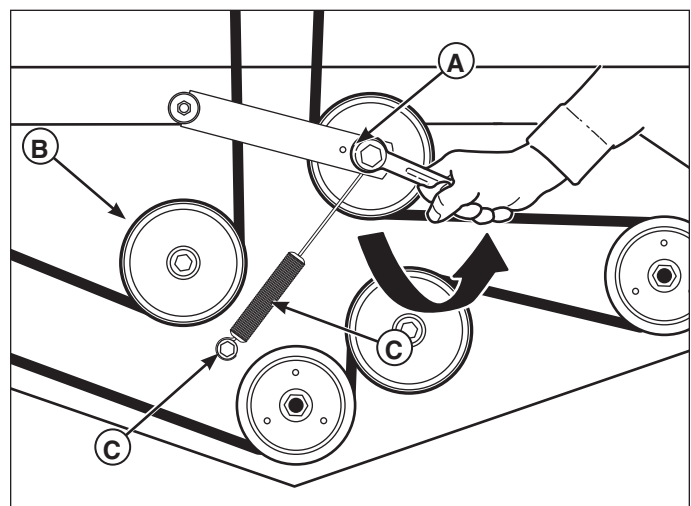

Figure 1. Mower Deck Drive Belt
4. Using a 1/2" breaker bar, place the square end in the square hole located on the end of the idler arm (A, Figure 1). Carefully rotate the breaker bar COUNTER-CLOCKWISE, which will relieve the tension on the mower deck drive belt exerted from the idler arm.
5. Slide the mower deck drive belt over the edge of the stationary idler pulley (B). Carefully release the tension on the breaker bar until the idler arm comes to a complete stop.